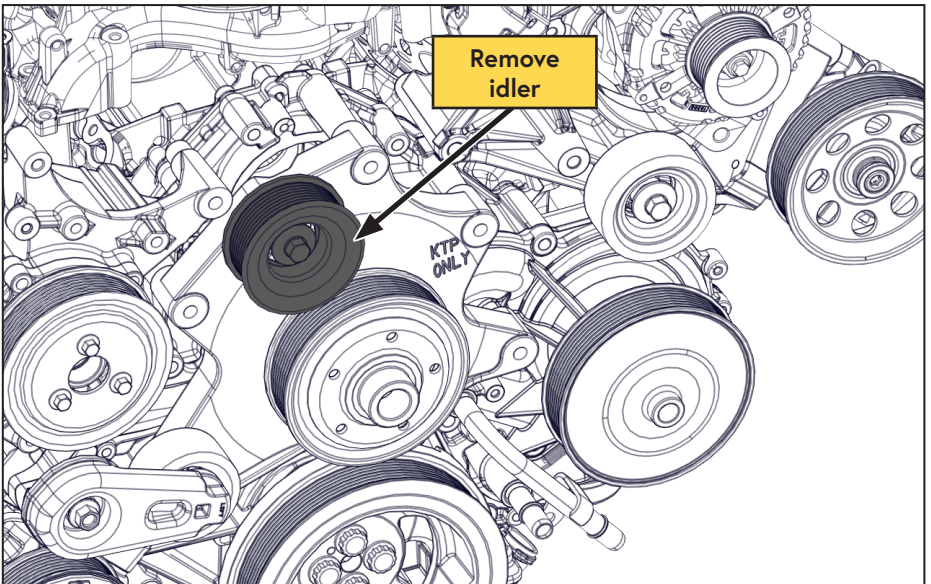

Figure 8 — Preparing for main bracket installation
- Remove the idler beside the power steering pump and set aside for later (Figure 8).